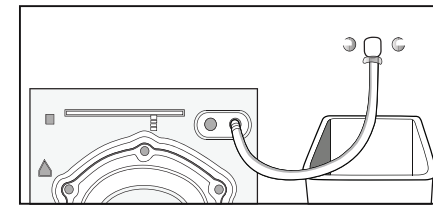

Fig7
**1:**Connect the water inlet hose,the angled connection attaches to the water inlet on the back of the washer-dryer.(Fig 7)